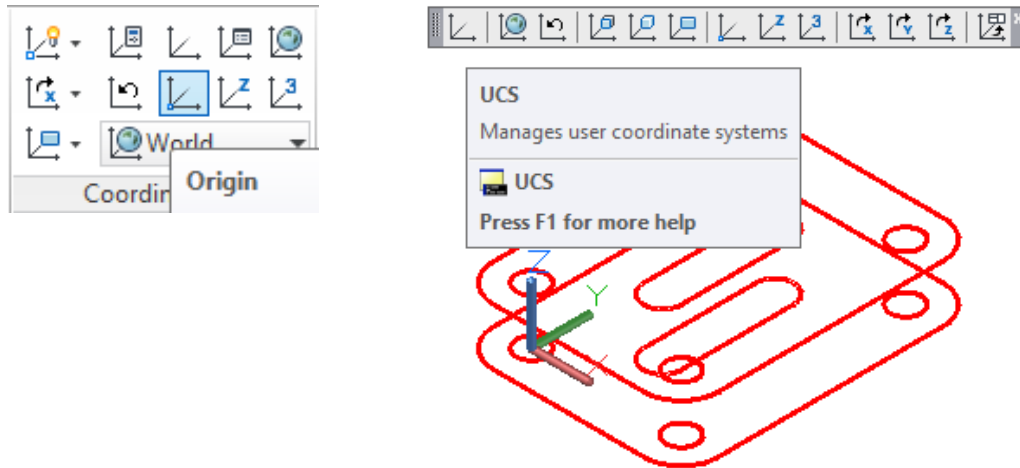

Figure Step 14
Step 14 Click the UCS Origin icon and then snap to the center of the circle on the bottom of the object. (Figure Step 14)